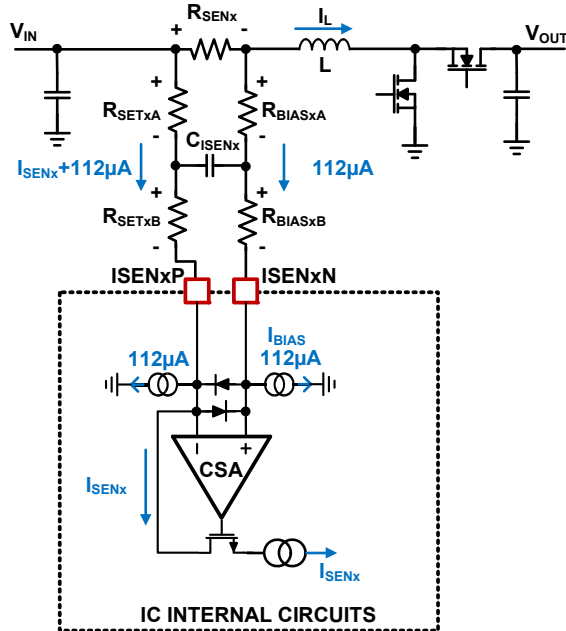

FIGURE 60. CURRENT-SENSING BLOCK DIAGRAM
The ISL78227 peak current control architecture senses the inductor current continuously for fast response. A sense resistor is placed in series with the power inductor for each phase. The ISL78227 Current Sense Amplifiers (CSA) continuously sense the respective inductor current as shown in Figure 60 on page 31 by sensing the voltage signal across the sense resistor, R_{SENx} (where "x" indicates the specific phase number and same note applied throughout this document). The sensed current for each active phase is used for peak current mode control loop, phase current balance, individual phase cycle-by-cycle peak current limiting (OC1), individual phase overcurrent fault protection (OC2_PEAK), input average Constant Current (CC) control and average overcurrent protection (OC_AVG), diode emulation, and phase drop control. The internal circuitry shown in Figure 60 represents a single phase. This circuitry is repeated for each phase.
The RC network between the R_{SENx} and $ISENxP/N$ pins as shown in Figure 60 is the recommended configuration. The $ISENxP$ pin should be connected to the positive potential of the R_{SEN_CHx} through resistor R_{SETx} , where in Figure 60, R_{SETx} is composed by R_{SETxA} plus R_{SETxB} . R_{SET} is used to set the current sense gain externally.
Because there is an $112\mu\text{A}$ bias current sinking to each of the $ISENxP$ and $ISENxN$ pins, R_{BIASx} with the same value to R_{SETx} should be placed between the $ISENxN$ pin to the low potential of the R_{SENx} , where in Figure 60, R_{BIASx} is composed by R_{BIASxA} plus R_{BIASxB} .
It is recommended to have $R_{SETxA} = R_{BIASxA}$ and $R_{SETxB} = R_{BIASxB}$, and insert a capacitor (C_{ISENx}) between them as shown in Figure 60. This will form a symmetric noise filter for the small current sense signals. The differential filtering time constant equals to $(R_{SETxA} + R_{BIASxA}) \cdot C_{ISENx}$. This time constant is typically selected in range of tens of ns depending on the actual noise levels.